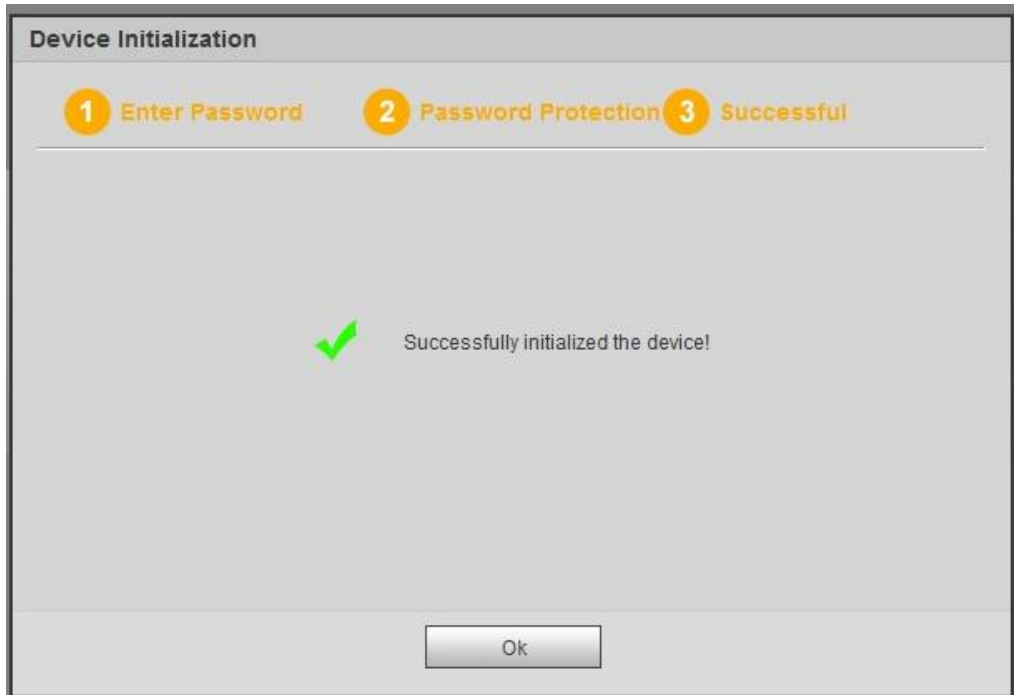

Figure 4-4
Step 6 Click OK to complete the device initialization setup. See Figure 4-4.